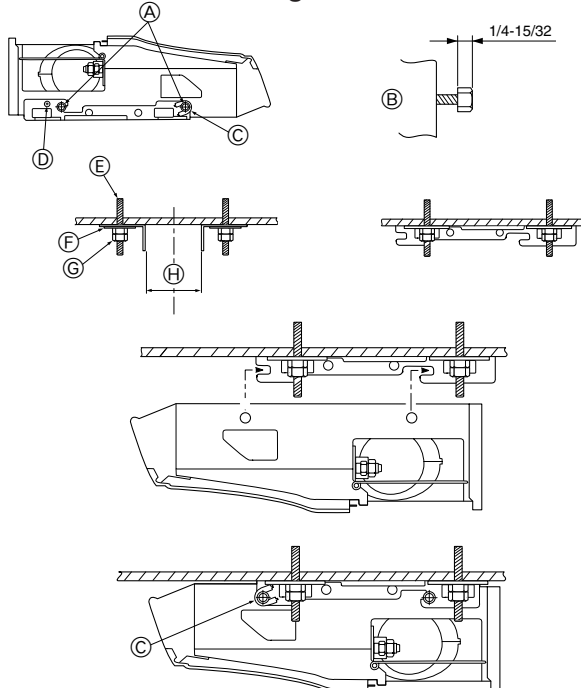

Fig. 3-8
2) Installing the suspending bracket first onto the ceiling (Fig. 3-8)